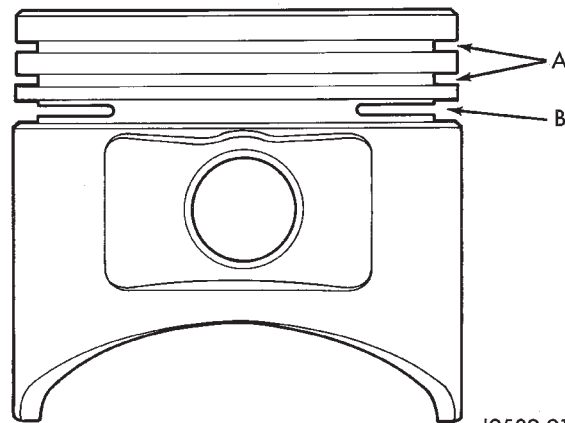

Fig. 10 Piston Dimensions
(1) Carefully clean the carbon from all ring grooves. Oil drain openings in the oil ring groove and pin boss must be clear. **DO NOT** remove metal from the grooves or lands. This will change ring-to-groove clearances and will damage the ring-to-land seating.
(2) Be sure the piston ring grooves are free of nicks and burrs.
(3) Measure the ring side clearance with a feeler gauge fitted snugly between the ring land and ring (Fig. 10). Rotate the ring in the groove. It must move freely around circumference of the groove.